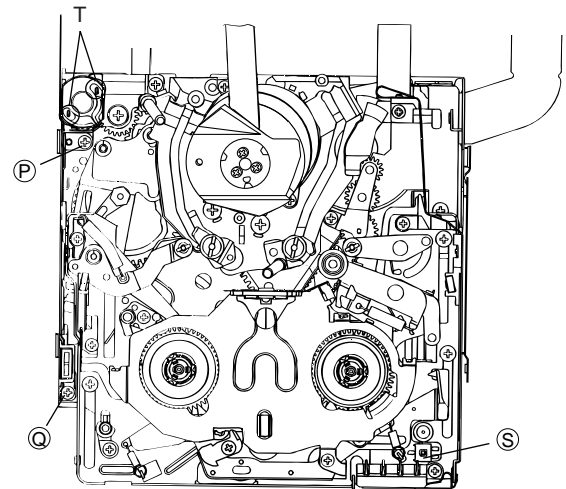

Fig. 5. STANDBY mode
- 1) In Fig. 5 remove the screws (P) and (Q).
- Note) The loading motor solder joint (part T, Fig. 5) of DEW sensor FPC applied to the down switch angle is not removed. After the down switch angle is removed, take care so that the DEW sensor FPC is not broken.